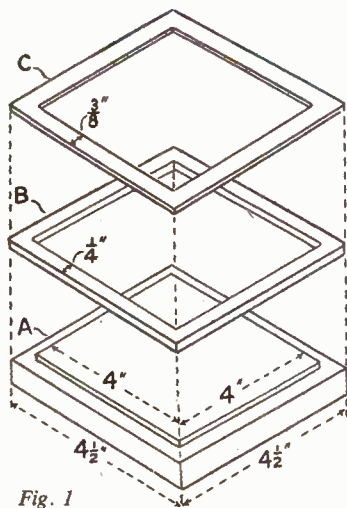

Fig. 1
**T**O make this simple but effectual periscope you will need two mirrors, each 4ins. square. These are set in wooden frames, details of which are given in Fig. 1.